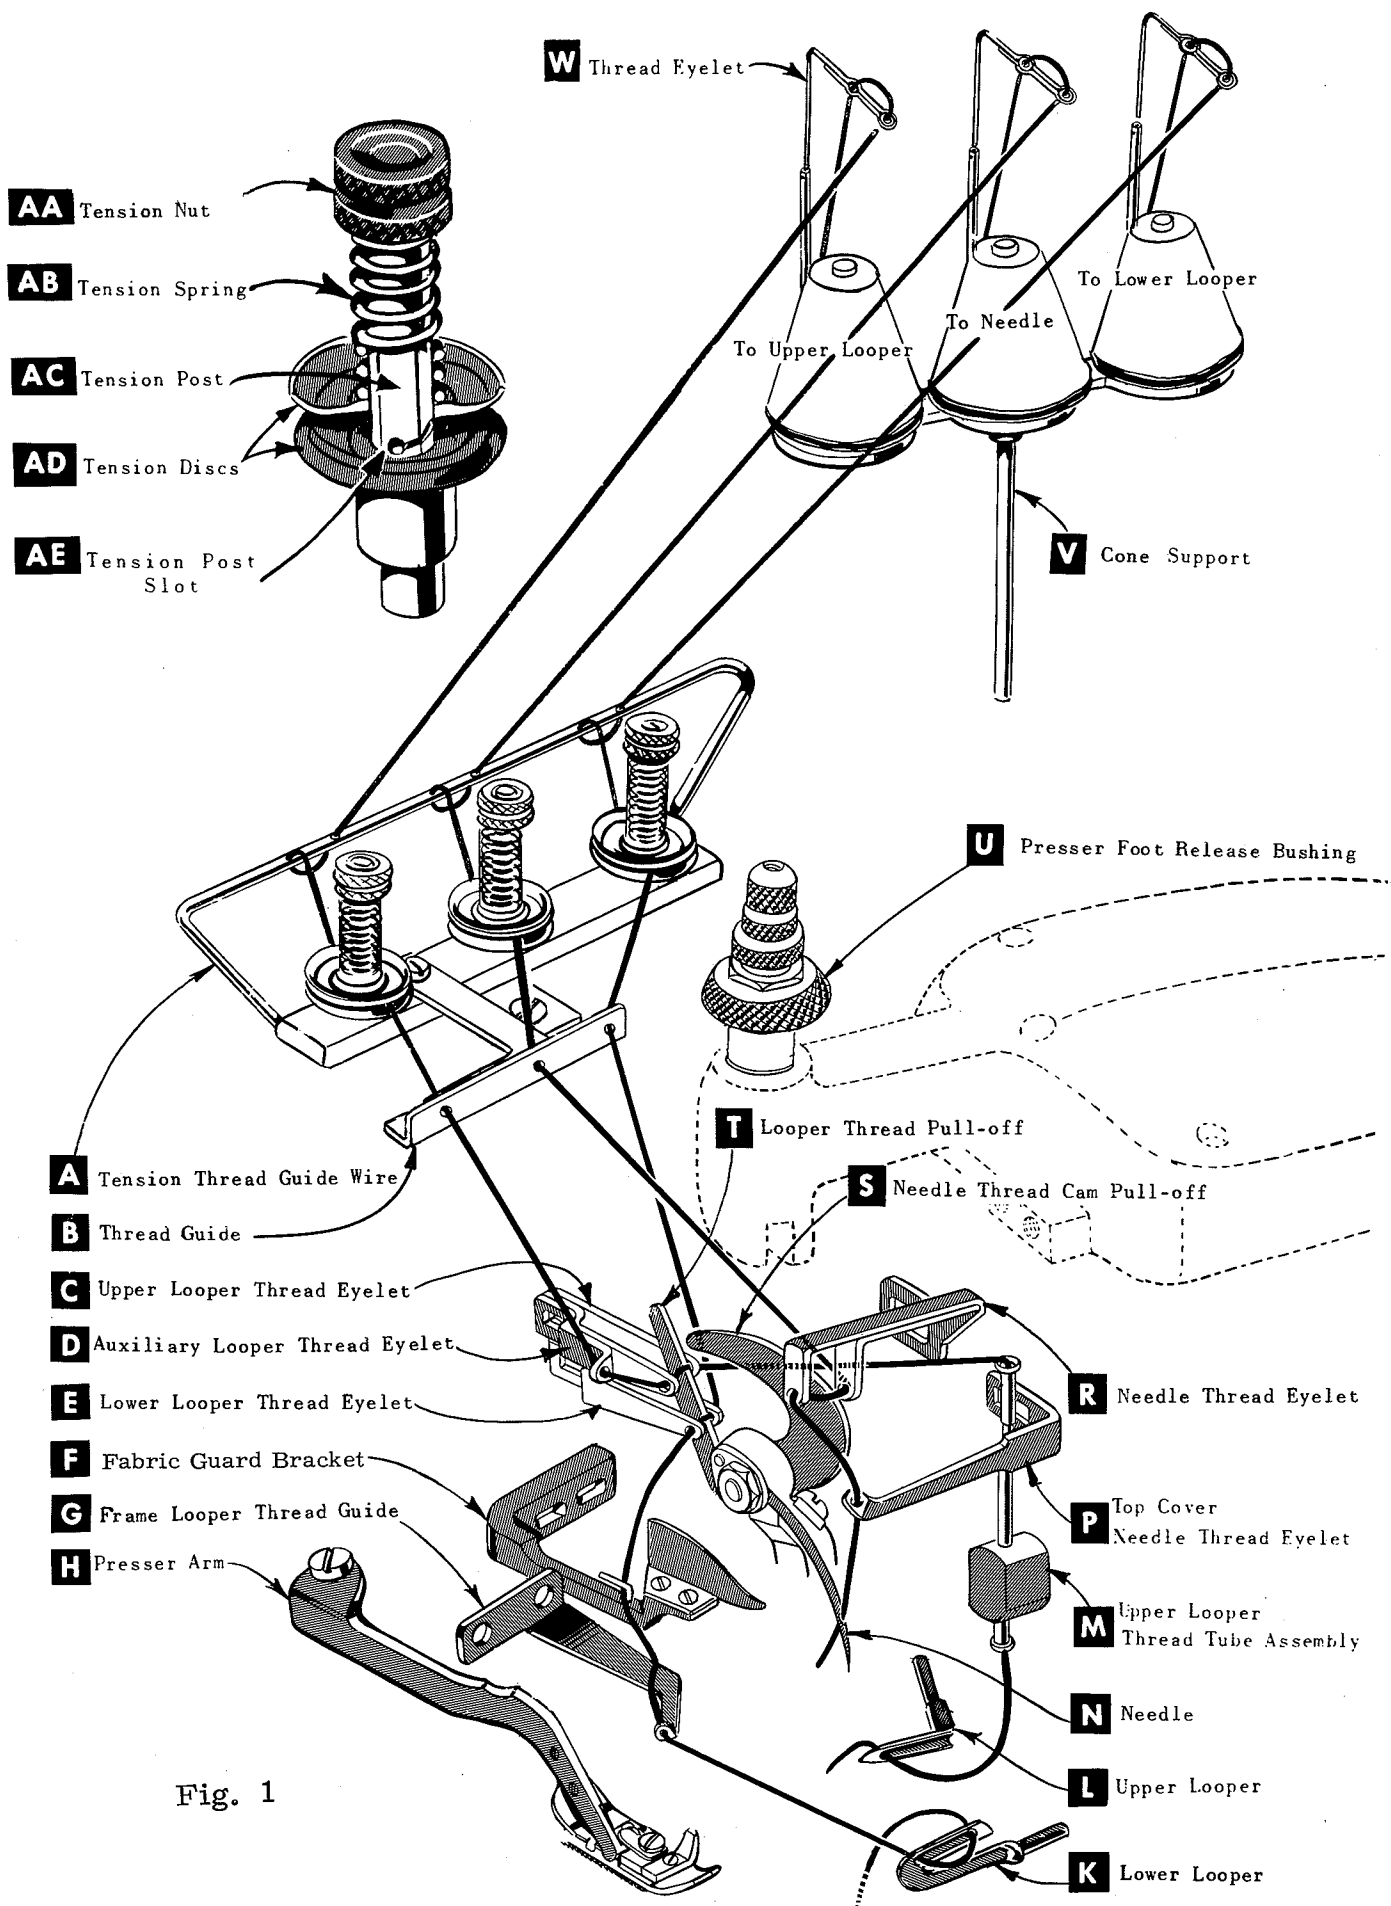

Fig. 1
After thread comes from cone on thread stand (V, Fig. 1), it is brought up through back thread eyelet, then down through front thread eyelet (W). Next it is threaded through each pair of holes in tension thread guide wire (A), down right hand hole and up through left hand hole. Then thread continues between tension discs (AD), through slot (AE), and on through thread guide (B).
Only parts involved in threading are shown in threading diagram (Fig. 1). Parts are placed in their relative positions for clarity.
Double end of thread and lead it through both eyes of lower looper thread eyelet (E, Fig. 1) from right to left. Note: Thread must pass in front of looper thread pull-off (T). Lead thread behind fabric guard (F) and through both holes of frame looper thread guide (G). Turn handwheel in operating direction until heel of lower looper (K) is all the way to the left; then thread through both eyes from left to right. Left eye of lower looper can be threaded easily if tweezers are in left hand.
Turn handwheel in operating direction until needle (N, Fig. 1) is at its highest position. Insert needle thread from right to left, through both eyes of needle thread eyelet (R), under neck of top cover casting; then down through hole in top cover needle thread eyelet (P). Thread needle from front.
The amount of tension on needle and looper threads is regulated by three knurled tension nuts (AA, Fig. 1). Tension on threads should be only enough to secure proper stitch formation.